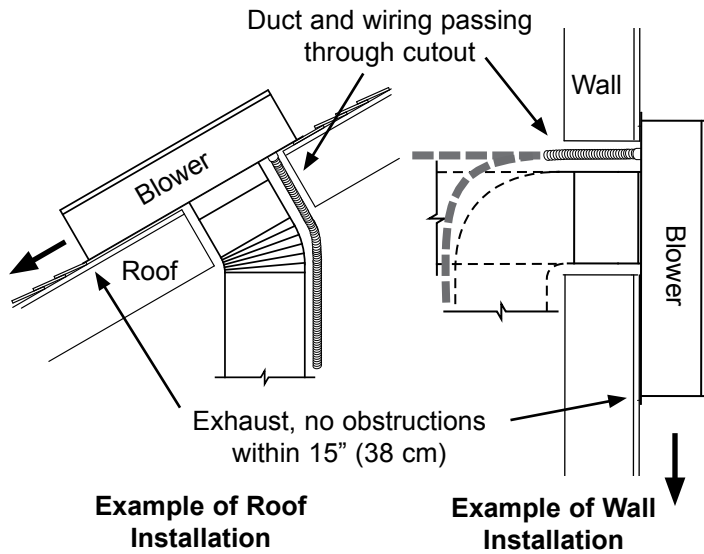

Figure 2
- The mounting location must allow for a clearance of at least 15" (38 cm) between the blower air exhaust and the ground and/or any obstructions (vents, pipes, etc.) See **Figure 2**. Drifting snow can also obstruct the exhaust, so allow 15" (38 cm) clearance from the average height of accumulated snow, if applicable. On horizontally mounted units, shield the exhaust if more than 3" (8 cm) of snow may accumulate on the roof.